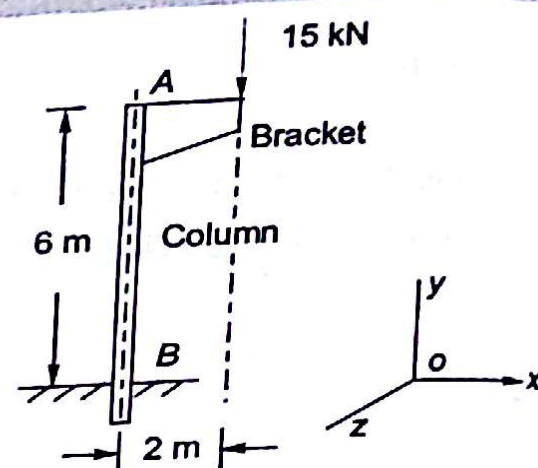

Fig. 1.29
1.2 A bracket is fixed on a vertical column, 6 m high from the ground. Bracket supports a load of 15 kN at its end, 2 m from axis of column as shown in Fig. 1.29. What is moment of the force at the fixed end B of column? Express the moment as vector.